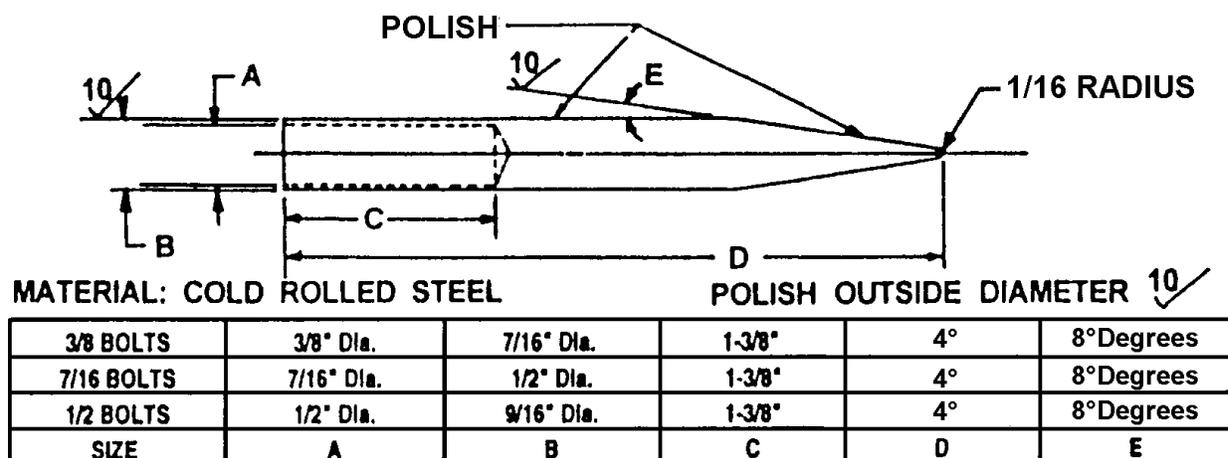

FIGURE 19-4. O-RING INSTALLATION TOOL
- See Figures 6-17, "Crankcase Attaching Parts and 19-9, "Torquing Sequence." Using an o-ring installation tool conforming with the specifications in Figure 19-4, "O-Ring Installation Tool," and new o-rings (29), install five 7/16 x 10.48 inch through bolts in positions (1, 4, 10, 13 and 30).